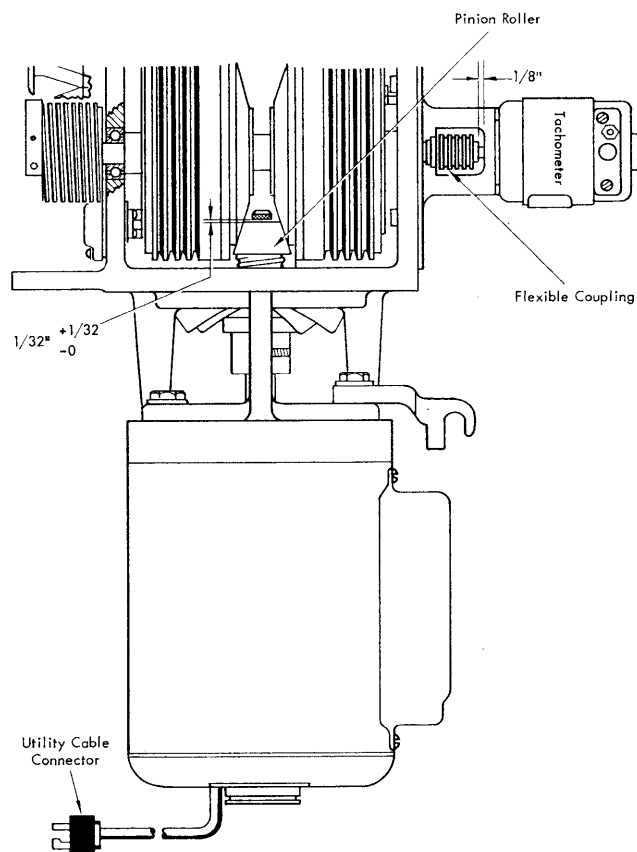

Figure 73. Access Motor
## Access Motor (Figure 73)
## Pinion Roller (Figure 73)
### ADJUSTMENT (FIGURE 73)
2. Shim pinion shaft on motor shaft to obtain a pinion roller to retaining washer clearance of  $1/32'' + 1/32''$ ,  $-0''$ . Tighten the mounting screw. Figure 73.
2. Check for  $\frac{1}{8}$ " clearance between tachometer and coupling (Figure 73).